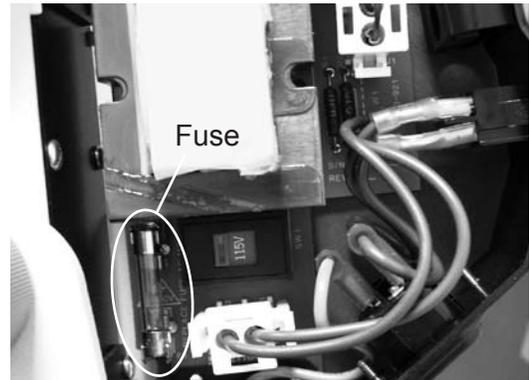

Figure MM-7 Fuse Location
4. Locate fuse in lower portion of the electrical assembly. Refer to Figure MM-7.
5. Gently remove the fuse from the holder. Refer to Figure MM-7.